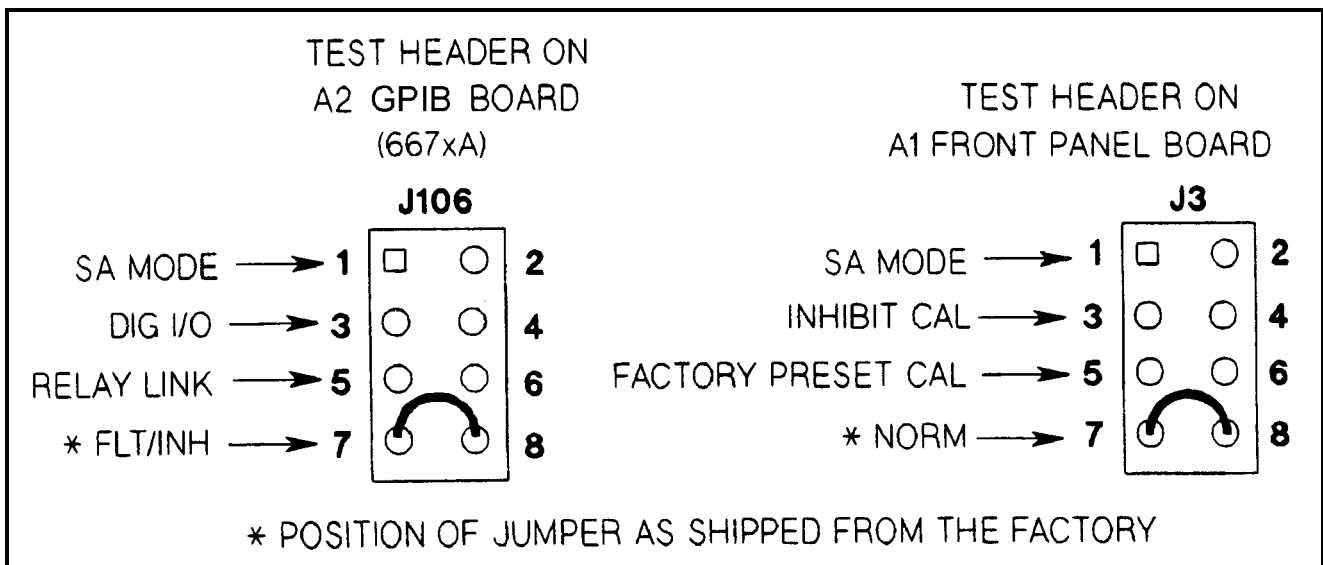

Figure 3-15. Test Header Jumper Positions
The power supply has two test headers as shown in Figure 3-15, each with a jumper that can be moved to different positions for SA testing and for other functions. To gain access to the headers, remove the power supply top cover.
2. Connect SA jumper of connector J106 on A2 GPIB Board (see Figure 3-15).
3.	Connect SA jumper of connector J3 on A1 Front Panel Board (see Figure 3-15).
3. Connect signature analyzer CLOCK, START, STOP, and GROUND inputs and setup as shown in Figure 3-15.
If **CAL DENIED** appears on the display when front panel calibration is attempted (or error code 1 occurs when GPIB calibration is attempted on a Systems Supply), the **INHIBIT CAL** jumper (see Figure 3-15) is installed. This prevents the power supply calibration from being changed. To calibrate the power supply first move this jumper from the **INHIBIT CAL** position to the **NORM** position.
| 2 | Move the jumper in test header J3 on the A1 Front Panel Board from the NORM to the FACTORY PRESET CAL position (see Figure 3-15). |
| 4 | When PWR ON INIT no longer appears, the supply's factory calibration constants have been restored and the password has been changed to 0. There is no longer any password protection. You can now turn off the supply and restore the calibration jumper to the NORM position (see Figure 3-15). |